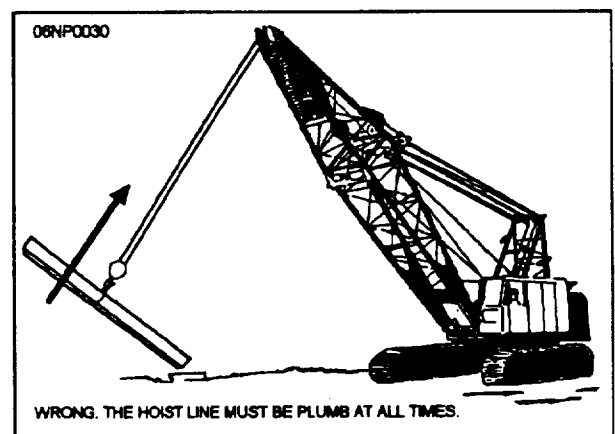

Figure 1-18.—Incorrect lifting procedures.
- The safe working loads of hoisting equipment apply only to freely suspended loads on plumb hoist lines. If the hoist line is not plumb at all times when handling loads, then additional side loads will endanger the stability of the equipment. In circumstances such as this, structural failures can result without any warning (fig. 1-18).